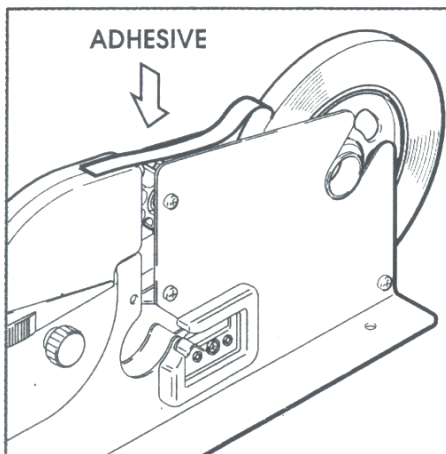

FIGURE 1
- 2) Pull the tape so that it extends past the Bag Opening by about 1". See Figure 1.